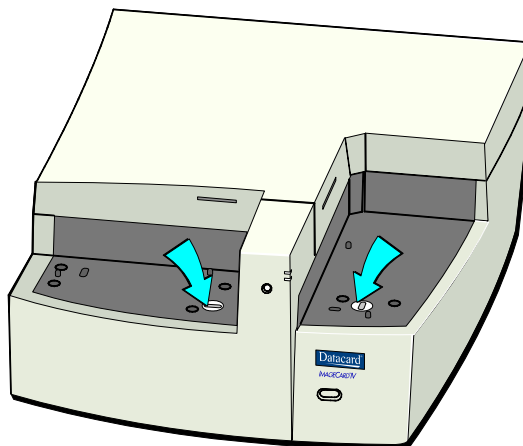

Figure 7-6: Clean sensor windows in the card tray cavities
- 6 Use a lint-free cloth and mild detergent to clean the sensor windows in the input tray cavity and the output tray cavity. (See Figure 7-6.)